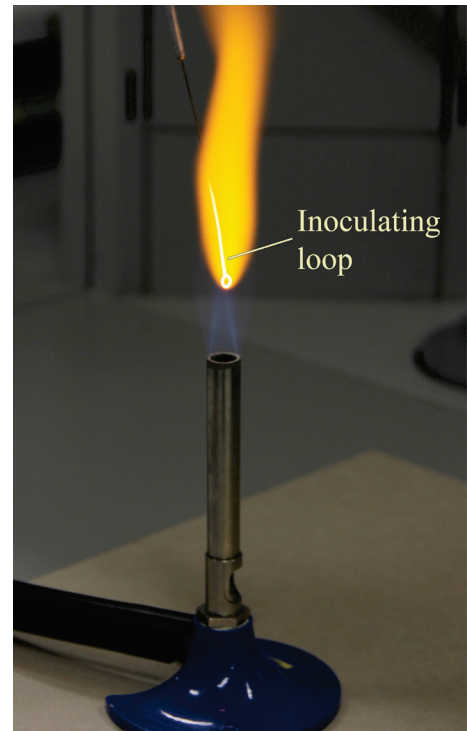

Fig. 3
4. Flame the inoculating loop to red hot (Fig. 3) and allow it to cool down#.